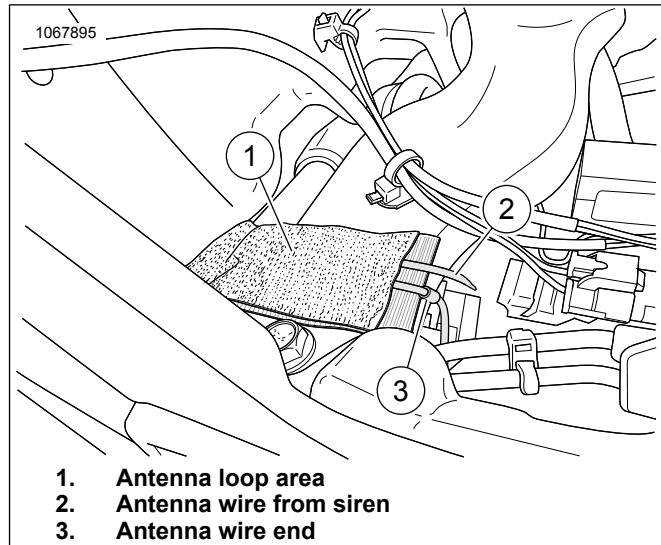

Figure 30. Antenna Wire Loop
- e. See Figure 30. Loop the antenna wire end (2). Place looped antenna end inside of hook fastener (1).